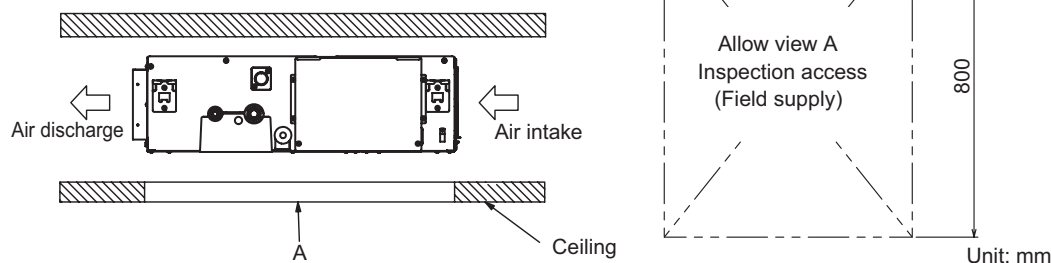

Fig. 2-126
- (1) Confirm the positional relationship between the unit and suspension bolts. (Fig. 2-126)